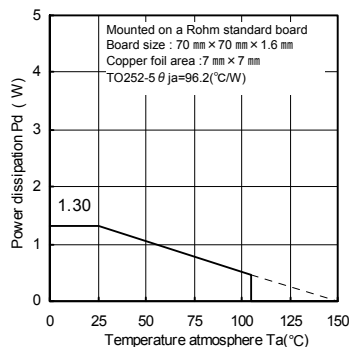
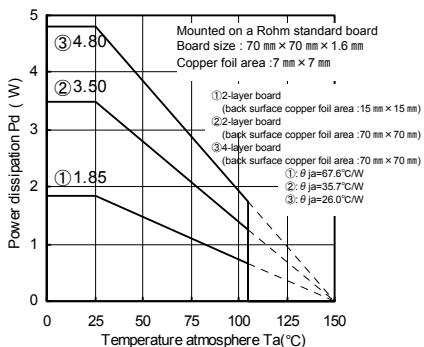
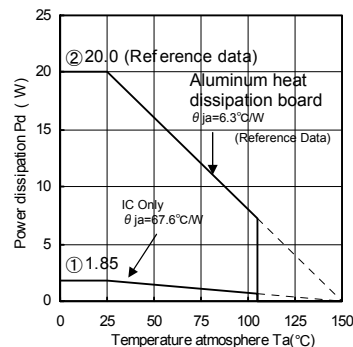

Fig. 15
Fig.16(Reference data)
Fig.17
When using at temperatures over Ta=25°C, please refer to the heat reducing characteristics shown in Fig.15 and Fig.16. The IC characteristics are closely related to the temperature at which the IC is used, so it is necessary to operate the IC at temperatures less than the maximum junction temperature Tjmax.
Fig.15 and Fig.16 shows the acceptable loss and heat reducing characteristics of the TO252-5 package. Even when the ambient temperature Ta is a normal temperature (25°C), the chip (junction) temperature Tj may be quite high so please operate the IC at temperatures less than the acceptable loss Pd.
The calculation method for power consumption Pc(W) is as follows : (Fig.16③ and Fig.17)
$$Io \leq \frac{2.496 - 10 \times Ib}{5} \quad \left[\begin{array}{l} \text{Fig.16③: } \theta ja=26.0^\circ\text{C/W} \rightarrow -38.4\text{mW}/^\circ\text{C} \\ 25^\circ\text{C}=4.80\text{W} \rightarrow 85^\circ\text{C}=2.496\text{W} \end{array} \right]$$
$$Io \leq \frac{10.4 - 25 \times Ib}{20} \quad \left[\begin{array}{l} \text{Fig.17(Aluminium heat dissipation board)} \theta ja=6.3^\circ\text{C/W} \rightarrow -160\text{mW}/^\circ\text{C} \\ 25^\circ\text{C}=20\text{W} \rightarrow 85^\circ\text{C}=10.4\text{W} \end{array} \right]$$